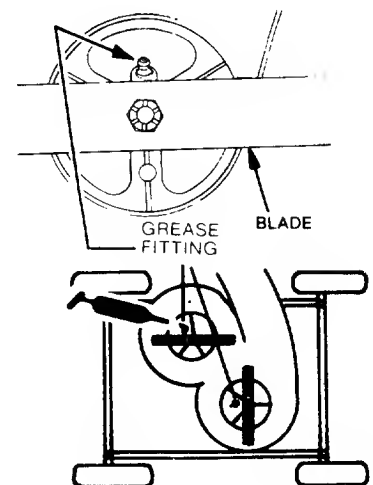

FIG. 10
4. At the end of each mowing season lubricate blade spindle bearings. Turn mower over on its left side and locate grease fitting on each spindle housing and clean. (See Fig. 10) With a hand grease gun apply grease slowly until the grease begins to come out of the relief groove on the side of the fitting.